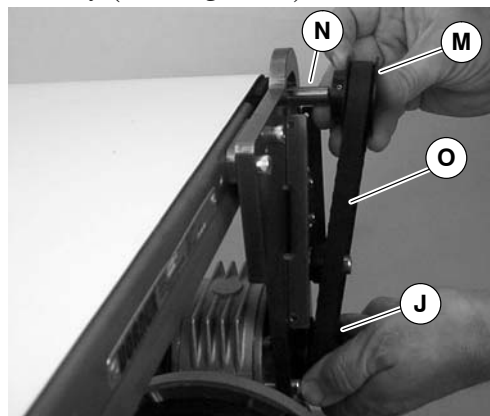

Figure 16
10. Install key (N of Figure 16).